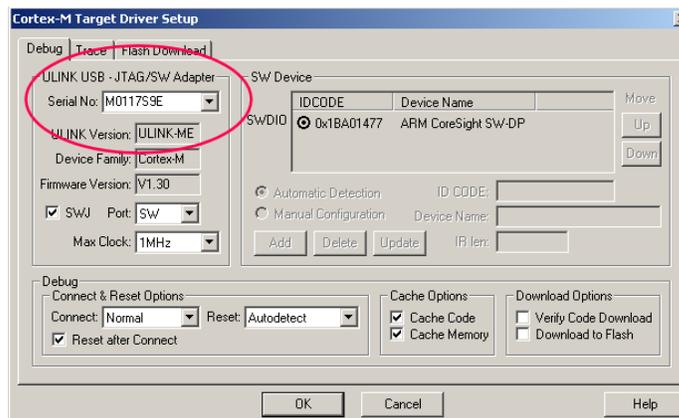

Figure 34
12. If you configure (or have already configured) the Logic Analyzer as shown in **CAN Example with Serial Wire Viewer**: on page 19, both the transmit and receive waveforms will react to changes in the pot positions as shown in Figure 34 below.
3. **If you have only one PC,** it is possible to run each board separately from one instance of uVision or run two separate instances of μ Vision using two ULINK2s. In both cases, each ULINK2 has a unique serial number that you can use to connect to it. Select this serial number as shown in the window in Figure 34: